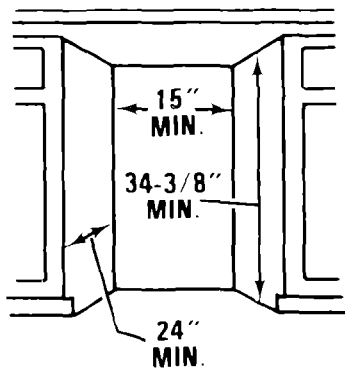

FIGURE 9
1. Measure the recessed area you wish to install the compactor in. It must be at least 34-1/2" (87.6 cm) high, 24" (61 cm) deep, and 15-1/8" (38.4 cm) wide. See Figure 9.